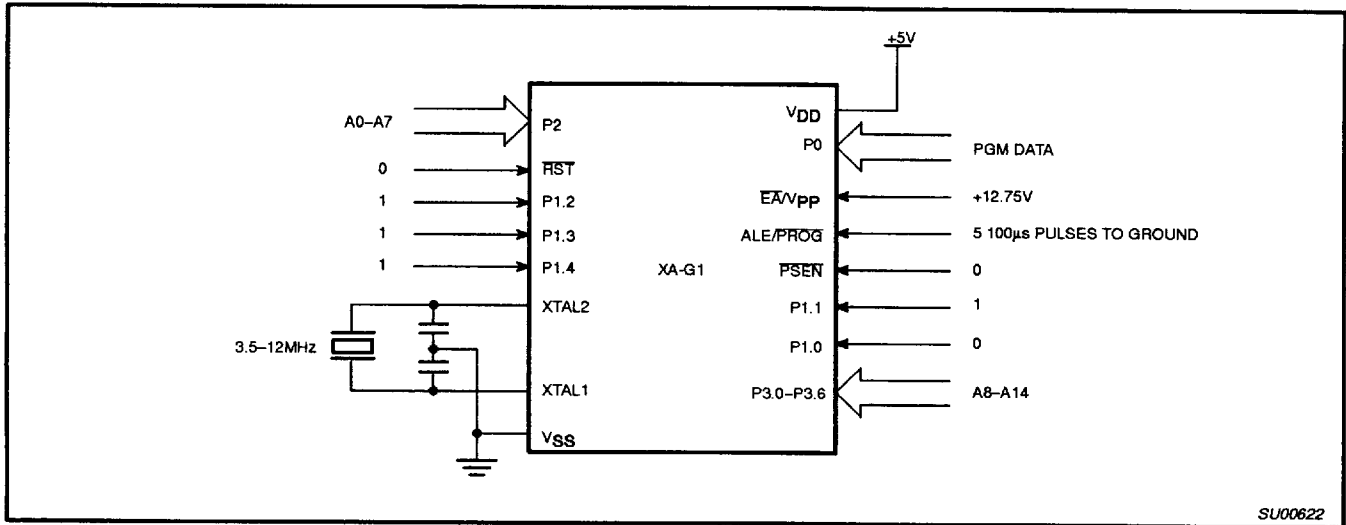
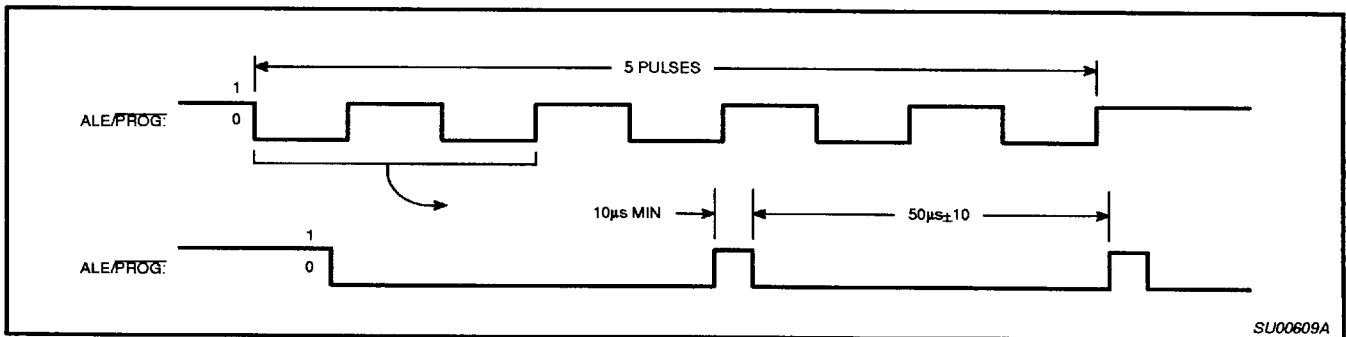
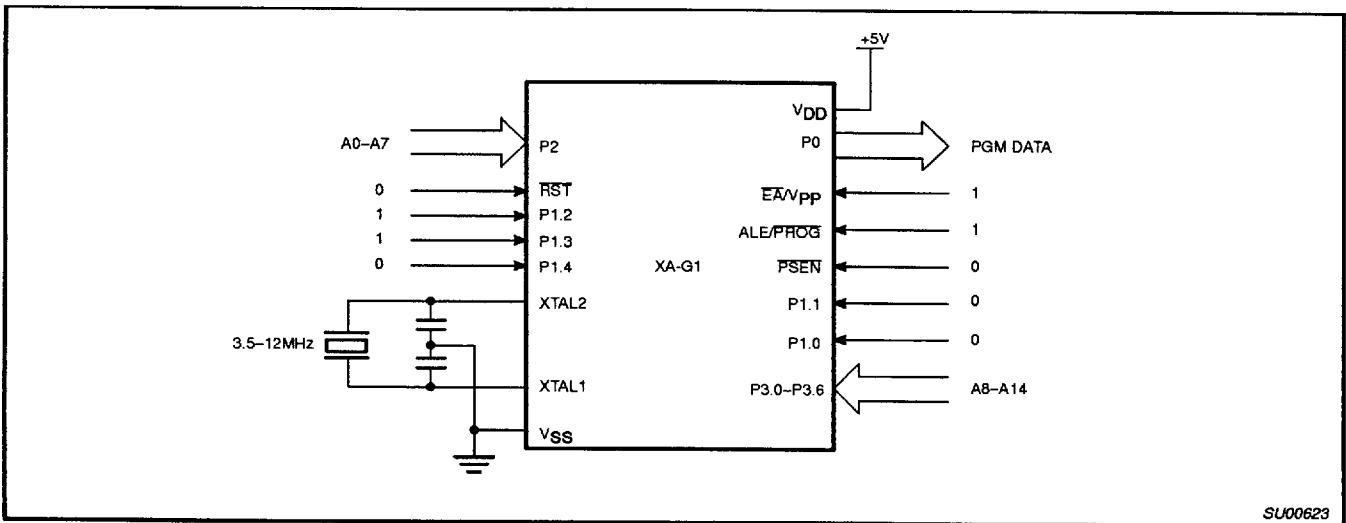

Figure 31. Programming Configuration for XA-G1
Figure 32. PROG Waveform
Figure 33. Program Verification for XA-G1
Table 6 shows the logic levels for reading the signature byte, and for programming the code memory and the security bits. The circuit configuration and waveforms for quick-pulse programming are shown in Figure 31. Figure 33 shows the circuit configuration for normal code memory verification.
The setup for microcontroller quick-pulse programming is shown in Figure 31. Note that the XA-G1 is running with a 3.5 to 12MHz oscillator. The reason the oscillator needs to be running is that the device is executing internal address and program data transfers.
The address of the EPROM location to be programmed is applied to ports 2 and 3, as shown in Figure 31. The code byte to be programmed into that location is applied to port 0. RST, PSEN and pins of port 1 specified in Table 6 are held at the 'Program Code Data' levels indicated in Table 6. The ALE/PROG is pulsed low 5 times as shown in Figure 32.
If security bits 2 and 3 have not been programmed, the on-chip program memory can be read out for program verification. The address of the program memory locations to be read is applied to ports 2 and 3 as shown in Figure 33. The other pins are held at the 'Verify Code Data' levels indicated in Table 6. The contents of the address location will be emitted on port 0.
- * FOR PROGRAMMING CONDITIONS SEE FIGURE 32.
- FOR VERIFICATION CONDITIONS SEE FIGURE 33.